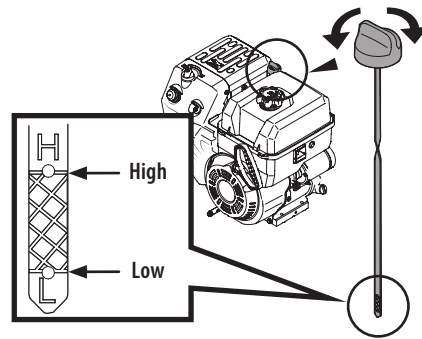

Figure 2
- Keep oil level between "H" and "L" marks on dipstick (Figure 2).
1. Remove the oil fill cap and wipe the dipstick clean (Figure 2).
3. Loosen and remove the oil fill cap from the oil fill neck. Note the oil level, if oil reading on the dipstick is below the "L" mark, slowly add oil to reach the "H" level (Figure 2).